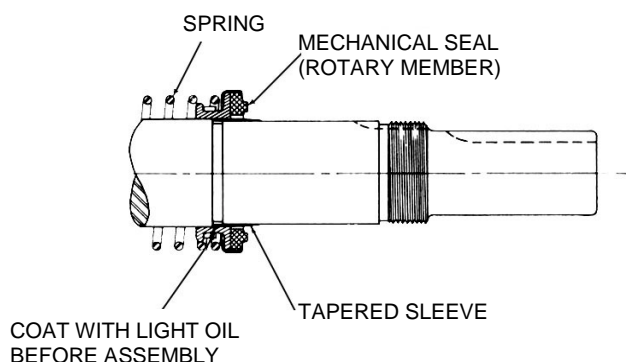

FIGURE 11
4. Place tapered installation sleeve on shaft, refer to figure 11. Sleeve is furnished with GG, AS, AK and AL size replacement mechanical seals. Coat rotor shaft, tapered installation sleeve and inner diameter of mechanical seal rotary member with a generous amount of non-detergent SAE 30 weight oil. Petrolatum may be used but grease is not recommended.